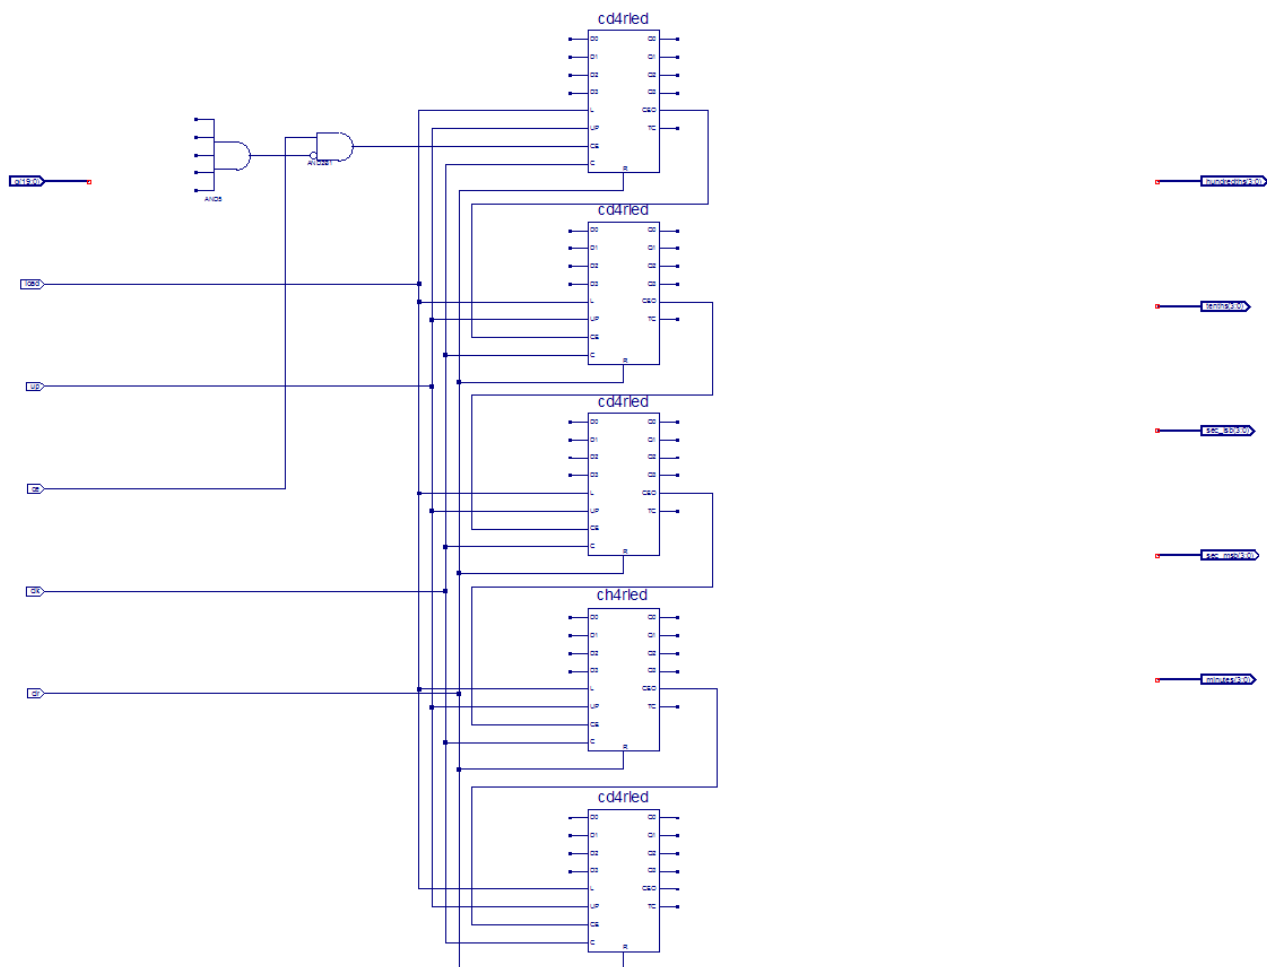

Figure 3-8: Partially Completed time_cnt Schematic
Refer to Figure 3-8 for placement locations.
4. Connect the **load**, **up**, **clk**, and **clr** input I/O markers respectively to the **L**, **UP**, **C**, and **R** pins of each of the five counter blocks and connect the **CEO** pin of the first four counters to the **CE** pin of the next counter as shown in Figure 3-8.
8. Compare your time_cnt schematic with Figure 3-8 to ensure that all connections are made properly.